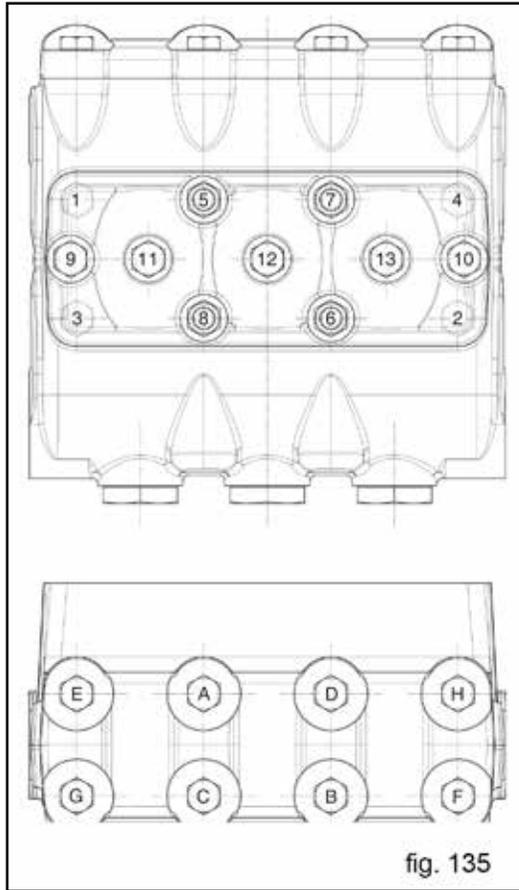

fig. 135
** The head and cover fixing screws and nuts must be tightened with a torque wrench, lubricating the threaded shank, respecting the order shown in the diagram in fig. 135.